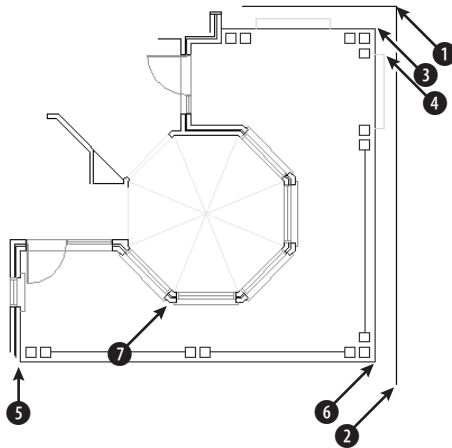

Figure 14-15: The house plan with the octagonal ceiling
2. Save the file as `ab14-04.dwg` in your AutoCAD Bible folder. This is the same drawing used in the previous two exercises, as shown in Figure 14-15. OSNAP should be on with running object snaps for endpoint and intersection. If the Dimension toolbar isn't visible, right-click any toolbar and check Dimension.
Specify first extension line origin or <select object>: *Pick the endpoint at ❶ in Figure 14-15.*
6. AutoCAD repeats the Specify a second extension line origin or [Undo/Select] <Select>: prompt. Pick the endpoint at ② in Figure 14-15. AutoCAD places the dimension. Press Enter twice to end the command.
Choose the endpoint at ⑤ in Figure 14-15.
- Specify second extension line origin: *Move the cursor over ⑦ to acquire it. Move the cursor down so that it's horizontal to ⑤. When you see the 4'0" <270° tooltip, click.*
8.  Choose Baseline Dimension from the Dimension toolbar. At the Specify a second extension line origin or [Undo/Select] <Select>: prompt, pick the endpoint or intersection at ⑥ in Figure 14-15. Press Enter twice to end the command.